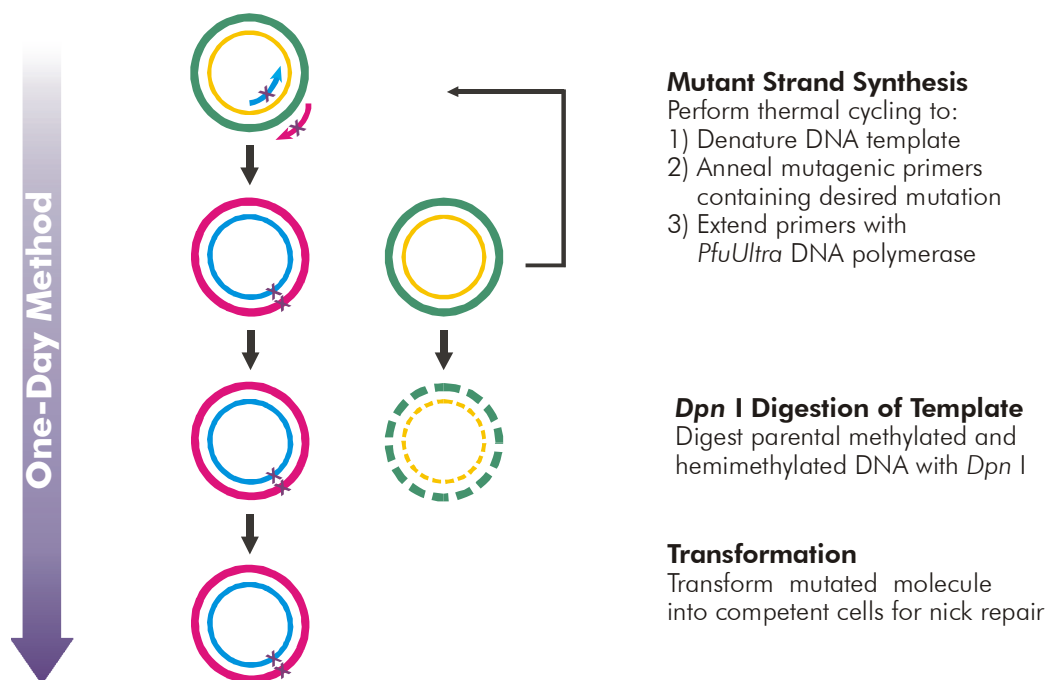

FIGURE 1 Overview of the QuikChange II site-directed mutagenesis method.
In vitro site-directed mutagenesis is an invaluable technique for characterizing the dynamic, complex relationships between protein structure and function, for studying gene expression elements, and for carrying out vector modification. Several approaches to this technique have been published, but these methods generally require single-stranded DNA (ssDNA) as the template¹⁻⁴ and are labor intensive or technically difficult. Stratagene's QuikChange® II site-directed mutagenesis kit* allows site-specific mutation in virtually any double-stranded plasmid, thus eliminating the need for subcloning and for ssDNA rescue.⁵ In addition, the QuikChange II site-directed mutagenesis kit does not require specialized vectors, unique restriction sites, multiple transformations or in vitro methylation treatment steps. The rapid three-step procedure generates mutants with greater than 80% efficiency in a single reaction (see Figure 1). The protocol is simple and uses either miniprep plasmid DNA or cesium-chloride-purified DNA. For long (~8 kb) or difficult targets, Stratagene offers the QuikChange II XL site directed mutagenesis kits (Catalog #200521 and #200522).
The QuikChange II site-directed mutagenesis kit is used to make point mutations, replace amino acids, and delete or insert single or multiple adjacent amino acids. The QuikChange II site-directed mutagenesis method is performed using *PfuUltra*[™] high-fidelity (HF) DNA polymerase** for mutagenic primer-directed replication of both plasmid strands with the highest fidelity.[¶] The basic procedure utilizes a supercoiled double-stranded DNA (dsDNA) vector with an insert of interest and two synthetic oligonucleotide primers, both containing the desired mutation (see Figure 1). The oligonucleotide primers, each complementary to opposite strands of the vector, are extended during temperature cycling by *PfuUltra* HF DNA polymerase, without primer displacement. Extension of the oligonucleotide primers generates a mutated plasmid containing staggered nicks. Following temperature cycling, the product is treated with *Dpn* I. The *Dpn* I endonuclease (target sequence: 5'-Gm⁶ATC-3') is specific for methylated and hemimethylated DNA and is used to digest the parental DNA template and to select for mutation-containing synthesized DNA.⁶ (DNA isolated from almost all *E. coli* strains is dam methylated and therefore susceptible to *Dpn* I digestion.) The nicked vector DNA containing the desired mutations is then transformed into XL1-Blue supercompetent cells.